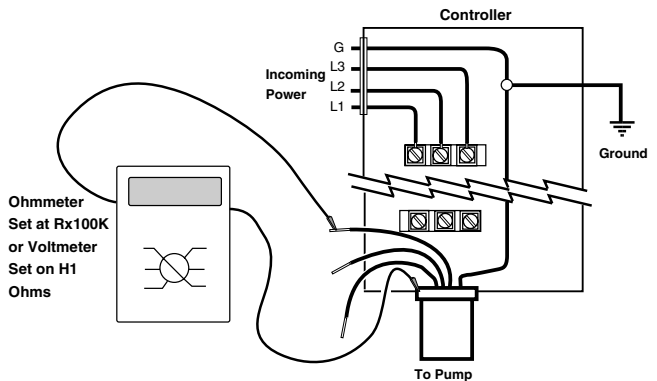

Figure 15 - Ground Check
2. Attach one ohmmeter lead to pipe or METAL well casing and the other lead, in turn, to each individual motor wire (Figure 15).